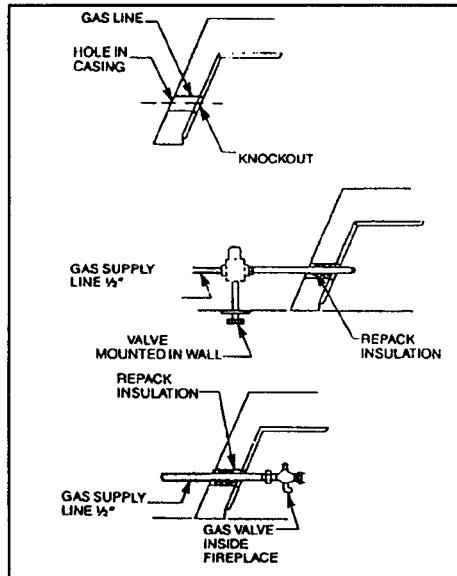

Figure 3. Gas line installation - Prefabricated Fireplace
D. **Prefabricated fireplace:** Refer to the manufacturer's instruction manual for specific information regarding the running of a gas line into that particular model. A typical installation involves the insertion of a 1/2 inch gas pipe through the gas line tube provided by the manufacturer from **outside** the fireplace. The Knockout on the inside of the fireplace is removed as the gas pipe is punched through the fireplace. (See **Figure 3**).